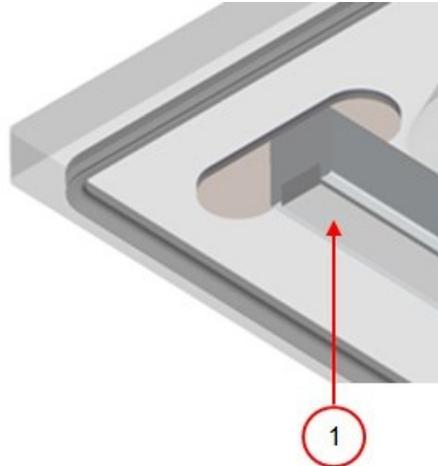

Figure 15: Replacing the Silicone Rubber of the Silicone Holders
1. Pull the old silicone rubber from the holder, see Figure 15: Replacing the Silicone Rubber of the Silicone Holders on page 23.